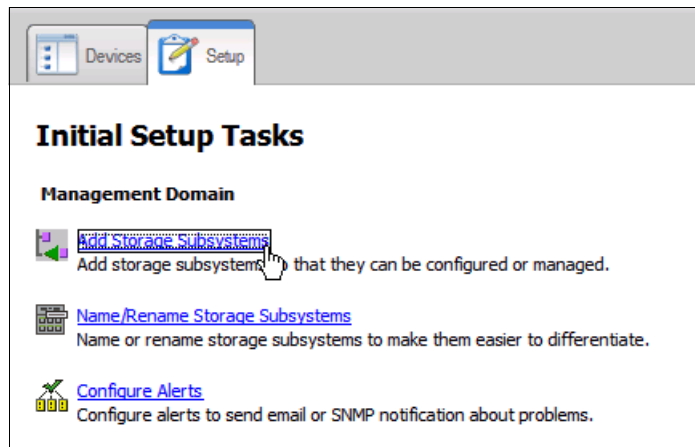

Figure 5-25 Add Storage Subsystem
1. From the Setup tab DS Storage Manager Enterprise Management window, click the **Add Storage Subsystem** link as shown in Figure 5-25.